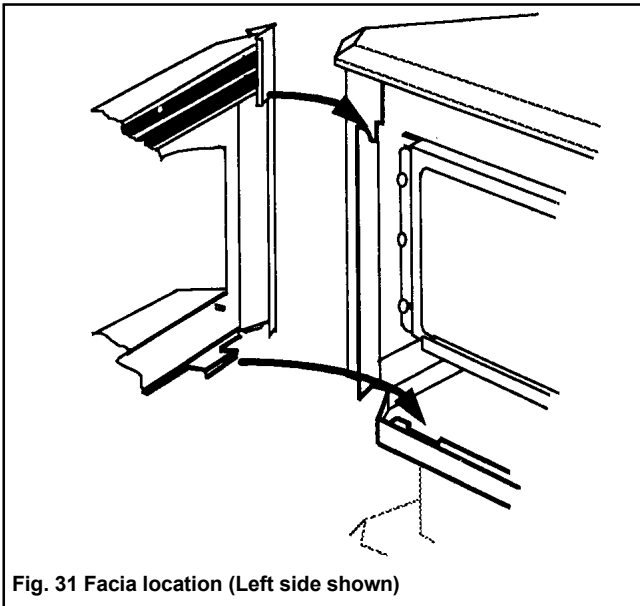

Fig. 31 Facia location (Left side shown)
18.2 Locate the fascia unit to the appliance front - see figure 31. Locate at the top corners and at the bottom. We suggest the following order: